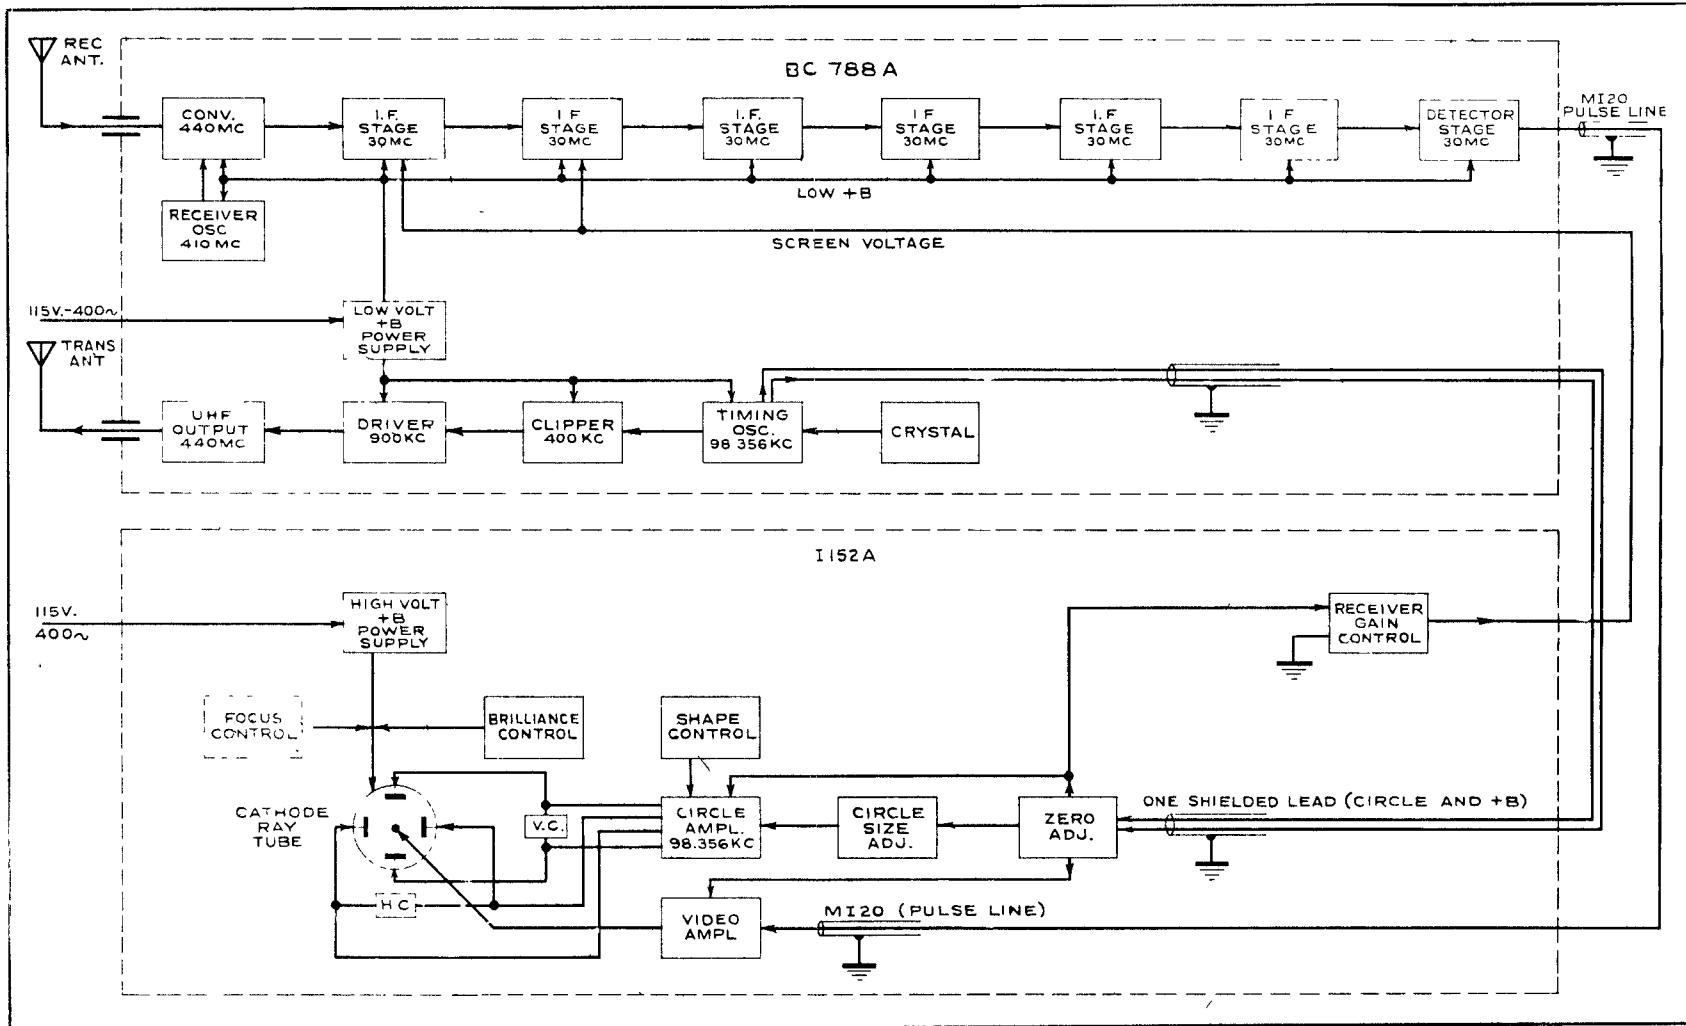

Figure 4-1. Radio Set SCR-718-(*). — Functional Block Diagram
a. The radio receiver and transmitter and the indicator of Radio Set SCR-718(*) accomplish the functions outlined in the following paragraphs. The radio receiver and transmitter includes circuits for signal generation, transmission and reception, and a low voltage power supply. The indicator includes circuits for measuring time intervals as indicated on the cathode-ray tube, and a high voltage power supply. (See fig. 4-1.)